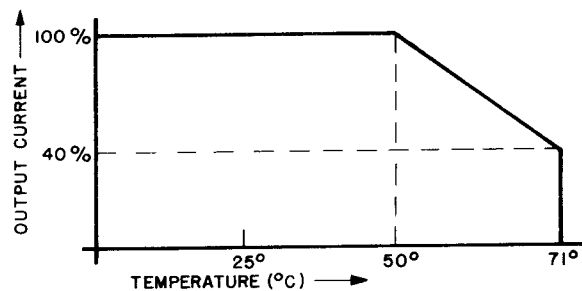

FIG. 1-2 DERATING GRAPH: USE FOR OPERATION FROM 50°C-71°C AMBIENT TEMPERATURE.
**NOTE:** No derating for 0°C to 50°C operation. For operation to 71°C, output current for all outputs must be derated linearly from 50°C to 71°C to a value of 40% at 71°C, see FIG. 1-2.